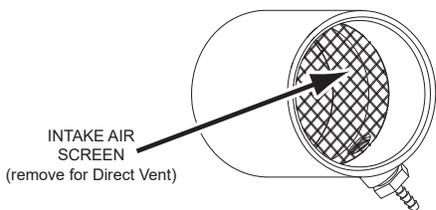

Figure 21. Intake Air Screen
- Ensure the Intake Air Screen on the Intake Air Connection to the water heater is removed before connecting the intake air pipe to the water heater. See **Figure 21** (page 35).